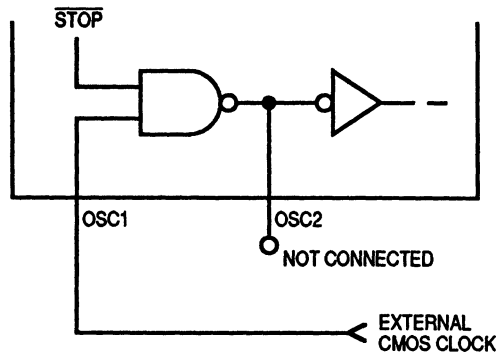

Figure 2-3. External Clock Source Connections
- An external clock signal (Refer to Figure 2-3.)
An external clock from another CMOS-compatible device can be connected to the OSC1 input, with the OSC2 input not connected, as shown in Figure 2-3.